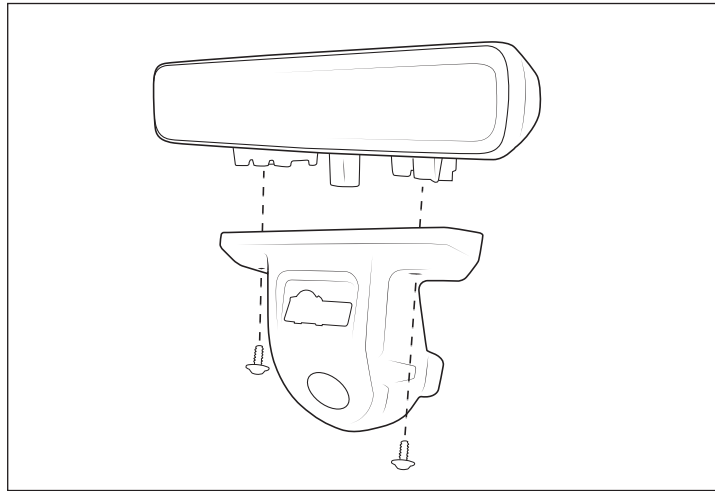

Figure 29
- B. Mount modified third brake light to the AEV bracket using factory hardware (fig. 29).